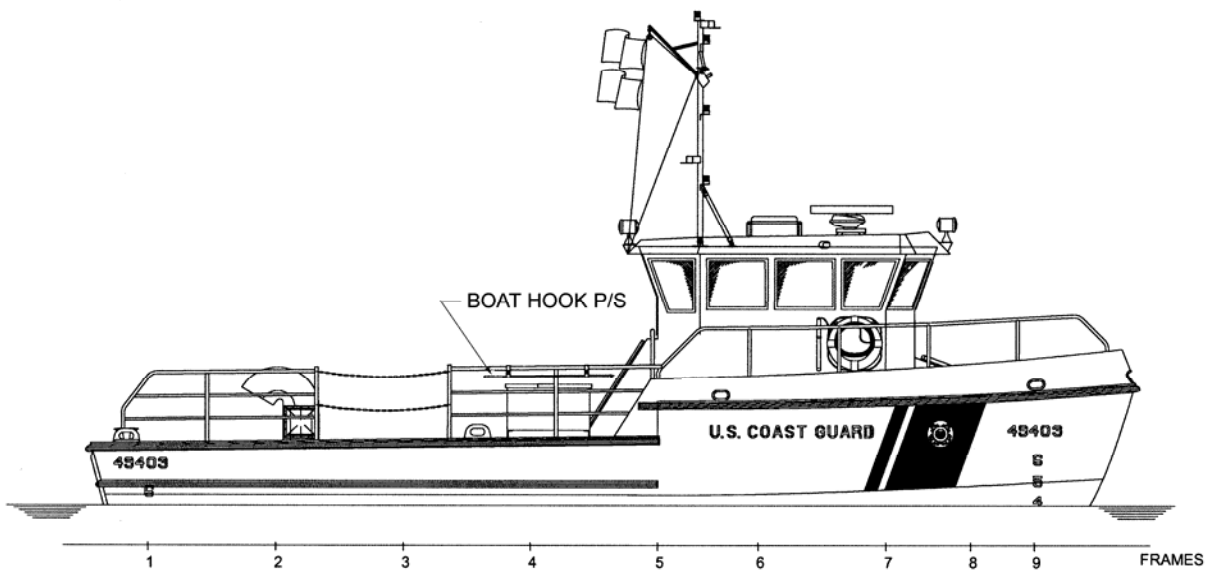

Figure 2-21
E.13. Location Two boat hooks are mounted horizontally port and starboard on the outboard side of the fixed handrails, at the forward end of the buoy deck. (See figure 2-21.)